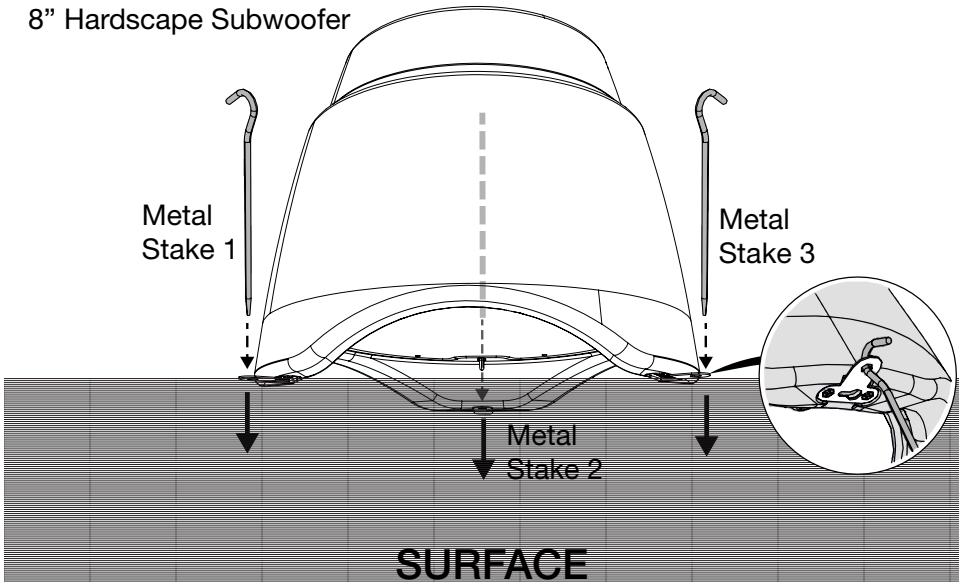

Figure 8: Secure Subwoofer (Stakes)
4. Rest the subwoofer on the desired surface (as shown in **Figure 8**) and use the supplied metal stakes to hold the subwoofer in place.